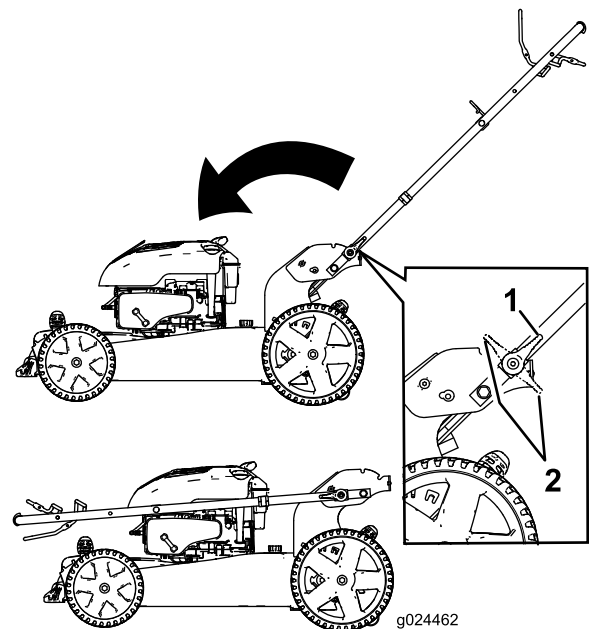

Figure 17
3. Disengage the handle locks (Figure 17).
4. Fold the handle fully forward (Figure 17).